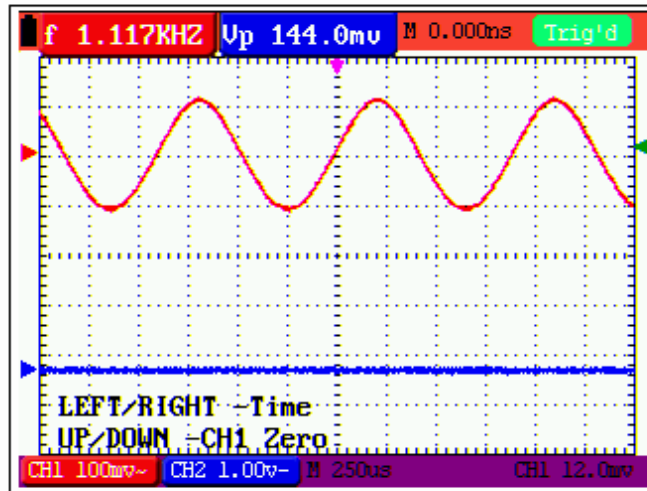

Figure 8: Zero Point Position of Channel 1
5. Press the **OSC OPTION** key one more time, and the following display is visible at the bottom left side of the screen, shown in figure 8.